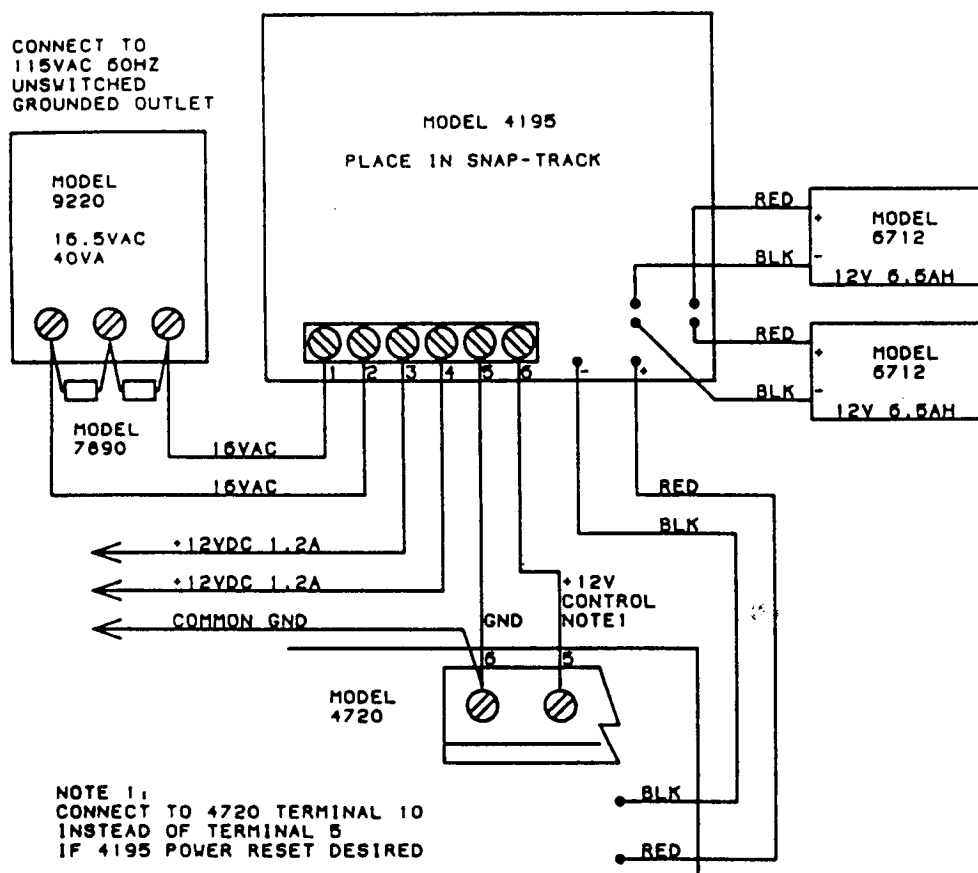

FIGURE 6.4A: WIRING THE MODEL 4195 AUXILIARY POWER SUPPLY
The Model 4195 provides an additional 1.75 A of current for accessory items. Terminals 3 and 4 can each provide 1.25 A of current (fused at 1.5 A), for accessory items. The two terminals provide a combined total of 1.75 A. The 4195 contains an AC power light that monitors the transformer. It also allows you to use two (2) stand-by batteries to double the time that the system can function on battery stand-by. The 4195 should be mounted in the plastic board mount above the 4720. Figure 6.4A shows how to wire the 4195. When using the 4195, connect the RED battery lead from the 4720 to the spade lug labeled "+" on the diagram below. Connect the BLACK battery lead from the 4720 to the spade lug labeled "-" on Figure 6.4A below.